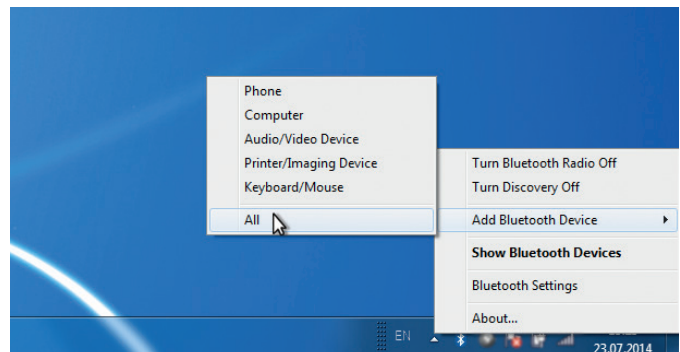

Fig. 2: Sensor installation
1. Ensure that the sensor has been switched on shortly before starting the procedure and that it can be discovered. The sensor is in the “discovery mode” only during the first 15 seconds. Subsequently, the output is enabled and the sensor cannot be detected any more. In the notification area, right-click on the Bluetooth® symbol. Select “Add Bluetooth Device” and then “All” (fig. 2).